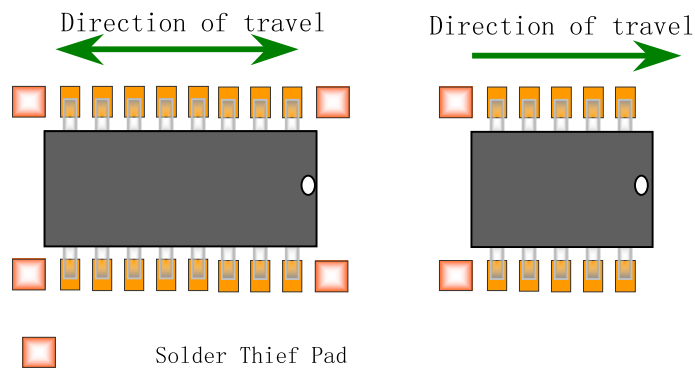

Figure 23: Solder thief pad placement for SOP packages undergoing wave soldering.
- [36] The long axis of SOP package components should be perpendicular to the direction of travel of the solder wave in the wave soldering process. SOP components also need extra pads at the end of the solder pad rows to act as 'solder thieves,' see Figure 23.